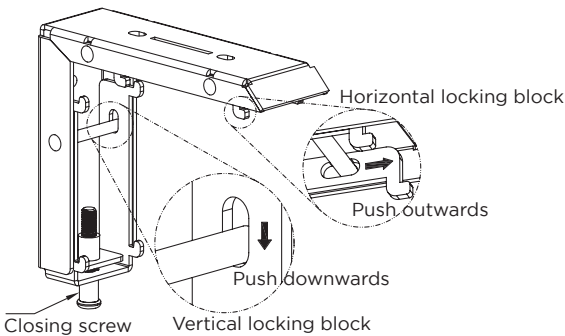

Fig. 6
3. Before installation, loosen the locking screw counterclockwise to release the vertical locking hook and slide it down towards the edge of the elongated slot. Then slide the horizontal locking hook outwards towards the outer edge. (Figs. 6 and 7)